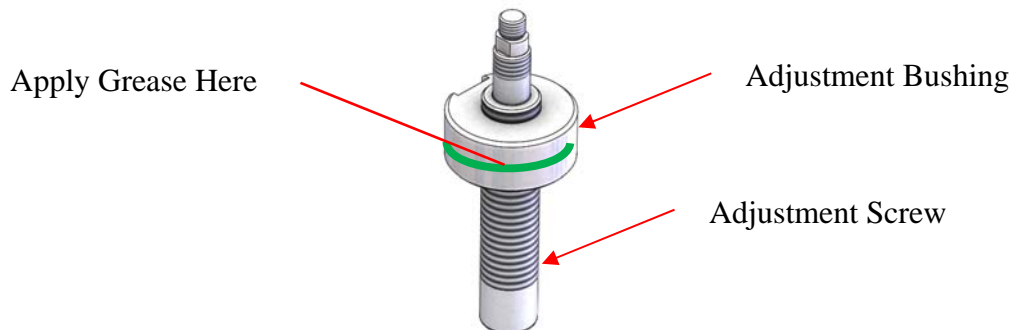

Figure 54: Adjustment Screw and Adjustment Bushing
2. Thread the adjustment bushing onto the adjustment screw. This has left handed threads. Screw the adjustment bushing down onto the adjustment screw until approximately 2 threads of the adjustment screw are visible from the top. See Figure 54.
3. Lightly lubricate the outer surface of the adjustment bushing. See Figure 54.